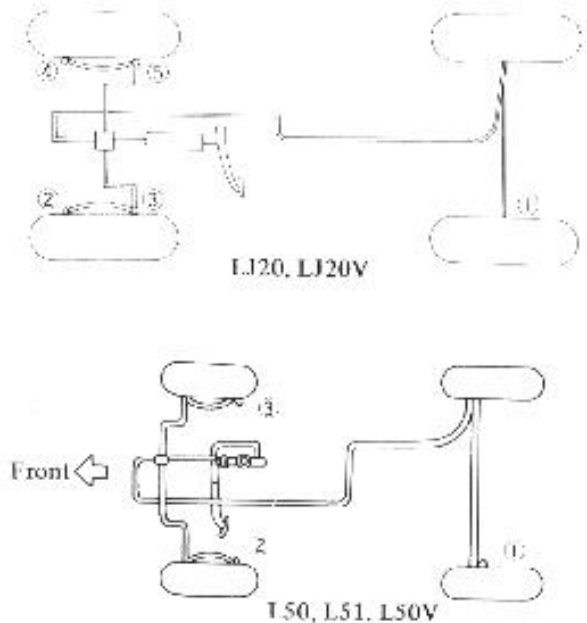

Fig. 14-15
6. The air bleeding should be done in the order of numbers in the figure 14-15.